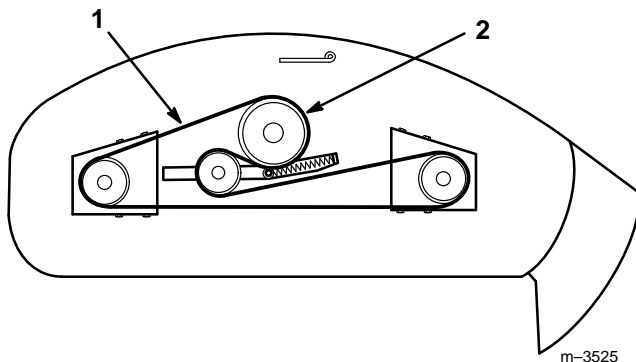

Figure 2
1. Route the mower belt as shown in Fig. 2. Be sure to install the belt on the lower mower deck pulley.